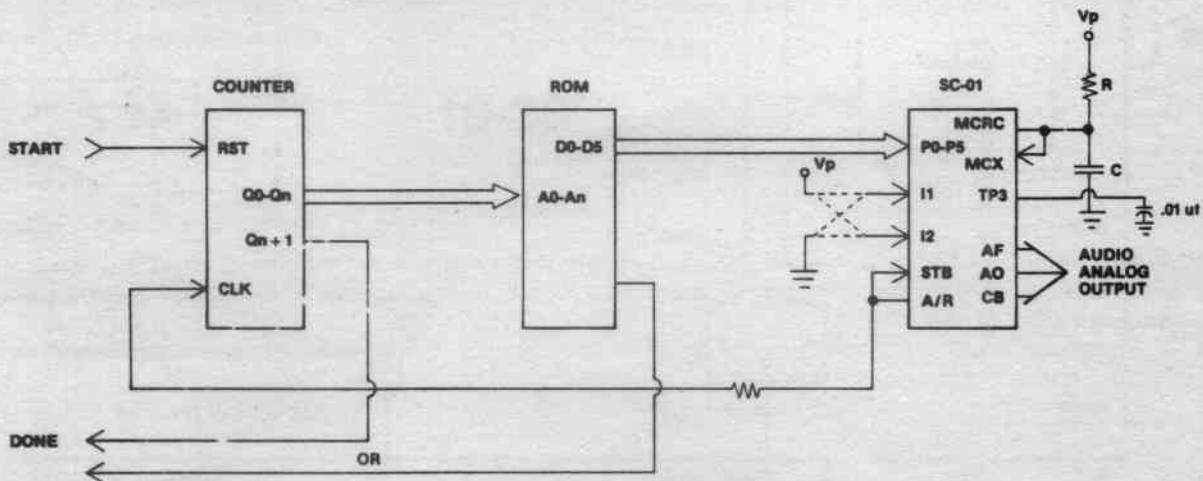

Figure 8. Single Message System
**Single Message System:** See Figure 8. When the counter is released (START is TRUE), the message is clocked out of the ROM by the A/R signal. The system must be stopped when DONE is TRUE. Note: When using A/R tied to STB, connect a .01  $\mu$ f capacitor to TP3 to insure power up reset of SC-01.